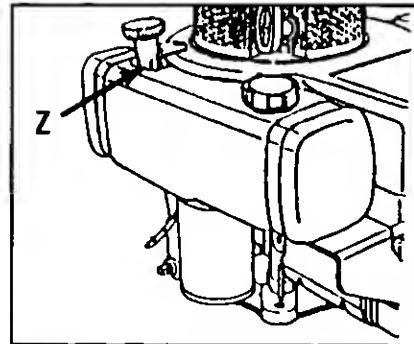

Figure 2-10: Engine oil fill.
- Remove dipstick (Z, Figure 2-10) from engine.